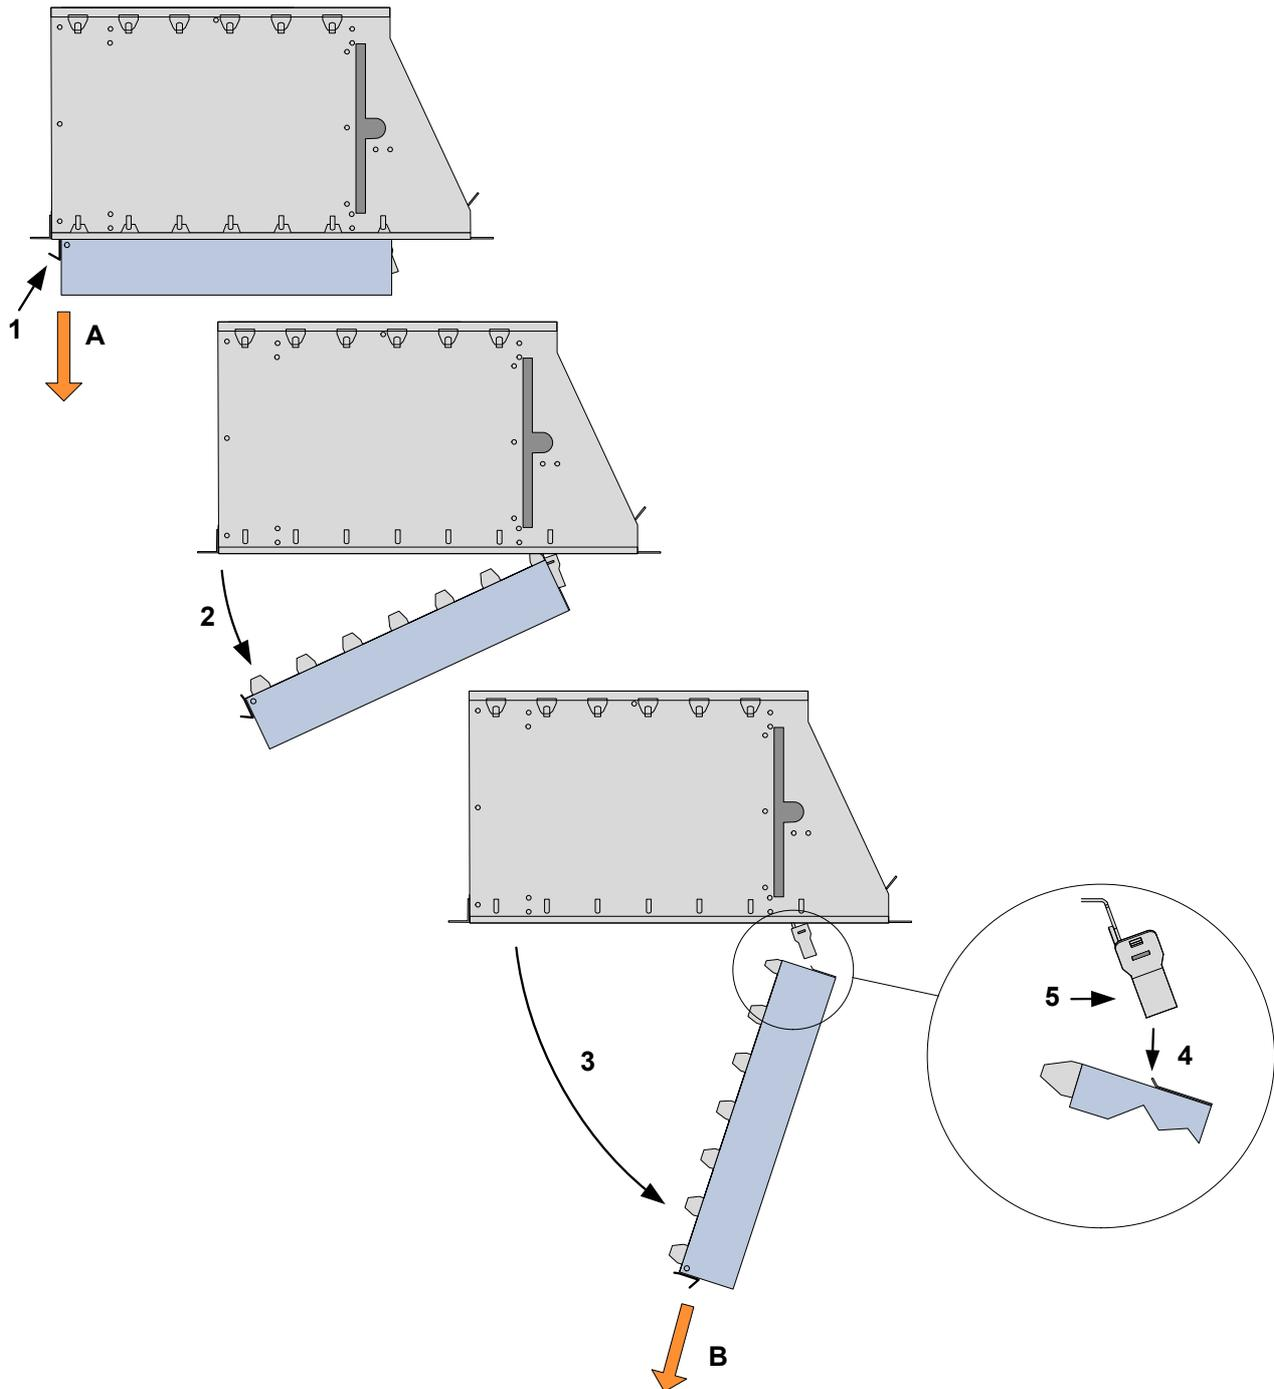

Figure 56: Removing the front cover from the subrack
- Refer to Figure 56: "Removing the front cover from the subrack" (on page 63) and proceed as instructed in the corresponding paragraphs.
1. To unlock the cover tear the outer edge of the left hand lock (1) and pull the front cover outwards (A).
2. Rotate the left edge of the front cover outwards (2).
3. Continue rotating the cover outward (3) as shown in Figure 56.
4. Remove the right lids of the front cover (4) from the slots of the earthing bar (5).
5. Remove the cover completely (B).